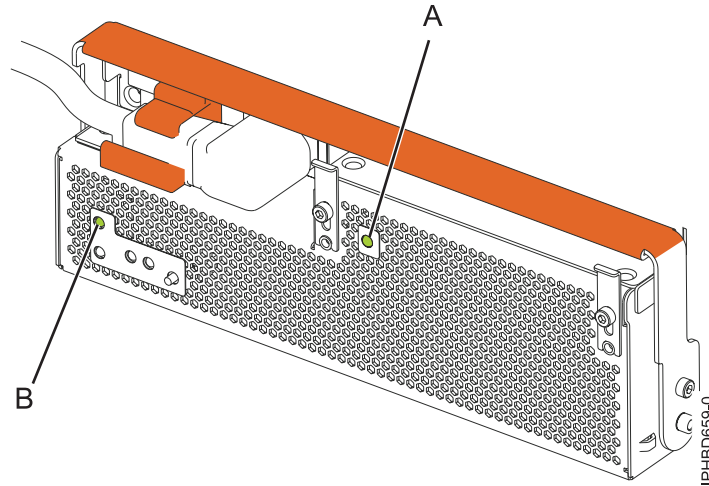

Figure 25. Expansion unit ac power and OCA power LEDs
9. Note the state of the green ac power in **(A)** and offline converter assembly (OCA) power **(B)** light-emitting diodes (LEDs) shown in Figure 25 on page 25, and do one of the following actions, as applicable: